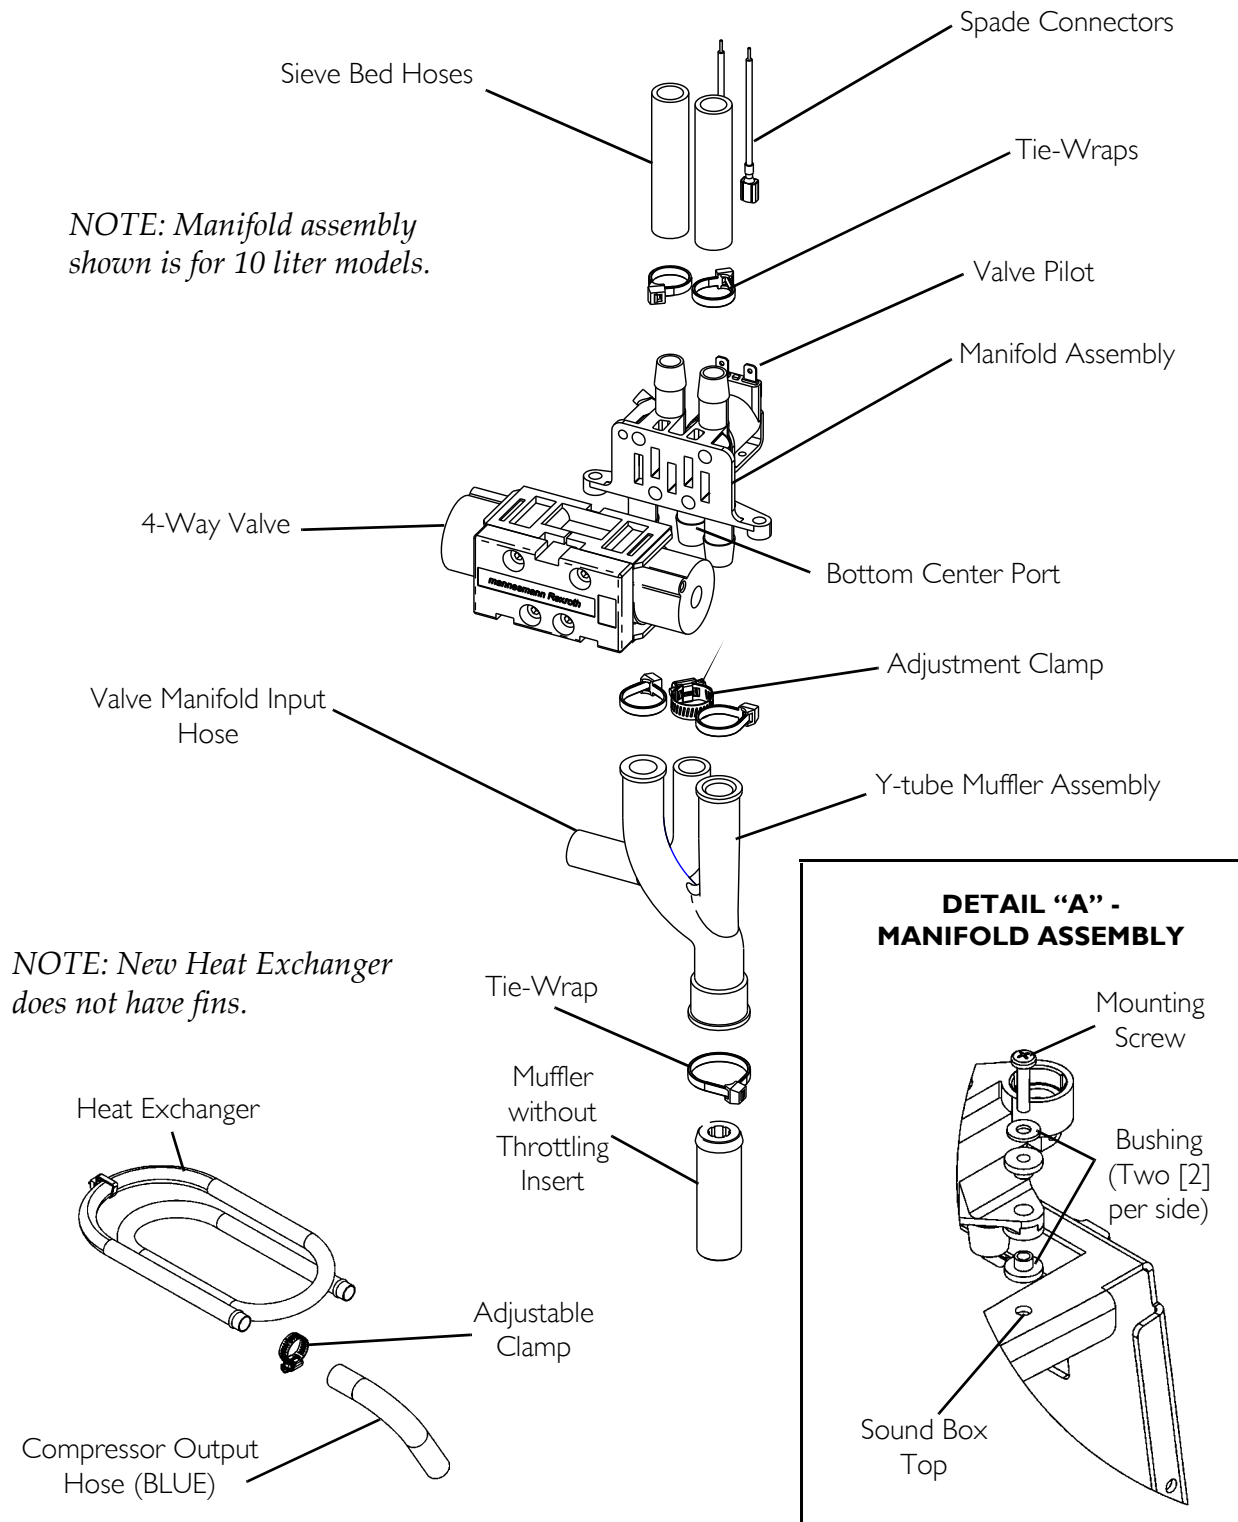
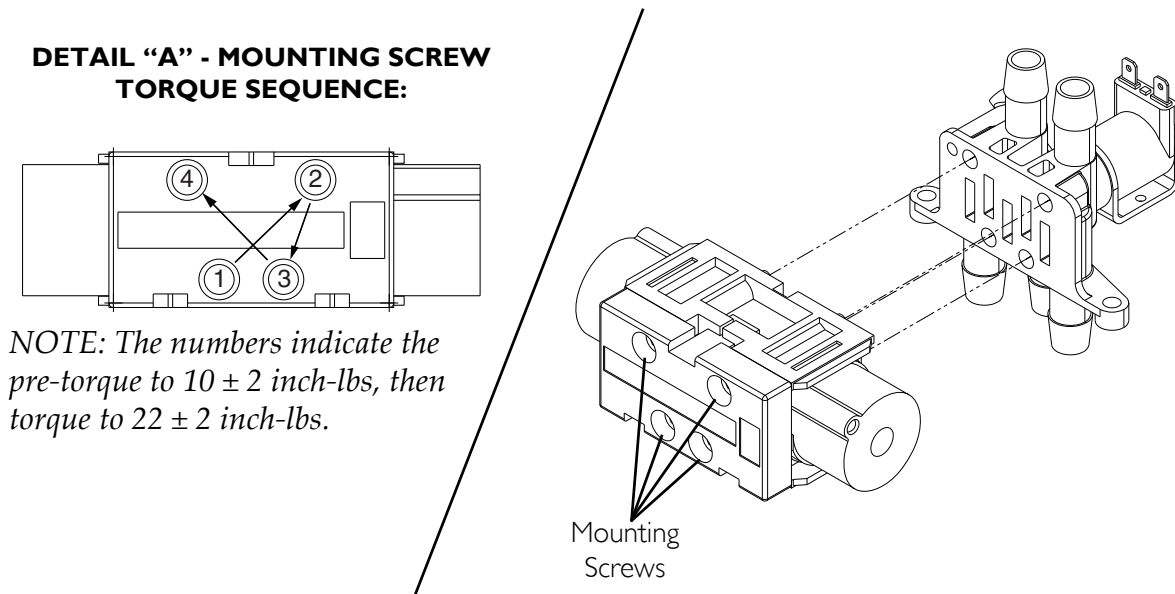

FIGURE 20.3 Replacing Manifold Assembly (Units Manufactured after 7/24/03)
FIGURE 20.4 Replacing Manifold Assembly (Units Manufactured after 7/24/03)
NOTE: For this procedure, refer to FIGURE 20.3 on page 75 and FIGURE 20.4 on page 77.
NOTE: Platinum XL and 10 Units manufactured after 7/24/03 are equipped with Y-tube muffler assembly as shown in FIGURE 20.3. This procedure applies to Platinum 5 units manufactured after 7/24/03.
9. Remove the two mounting screws, washers (one per side) and bushings (two per side) securing the 4-way valve/manifold assembly to top of sound box (Detail "A" of FIGURE 20.3).
- D. Pre-torque the mounting screws to 10 ± 2 inch-lbs using the torque sequence (FIGURE 20.4).